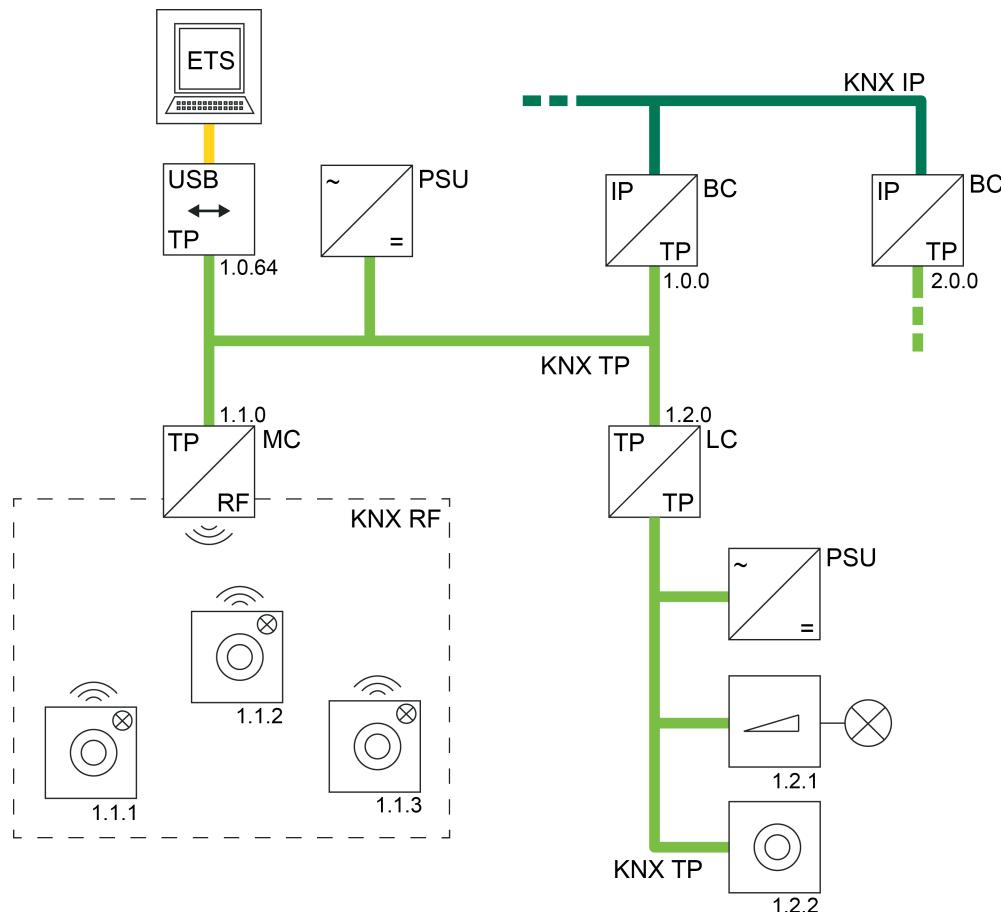

Figure 43: Example of a possible KNX topology with a KNX TP USB data interface
- Use of a KNX TP USB data interface (Figure 43):